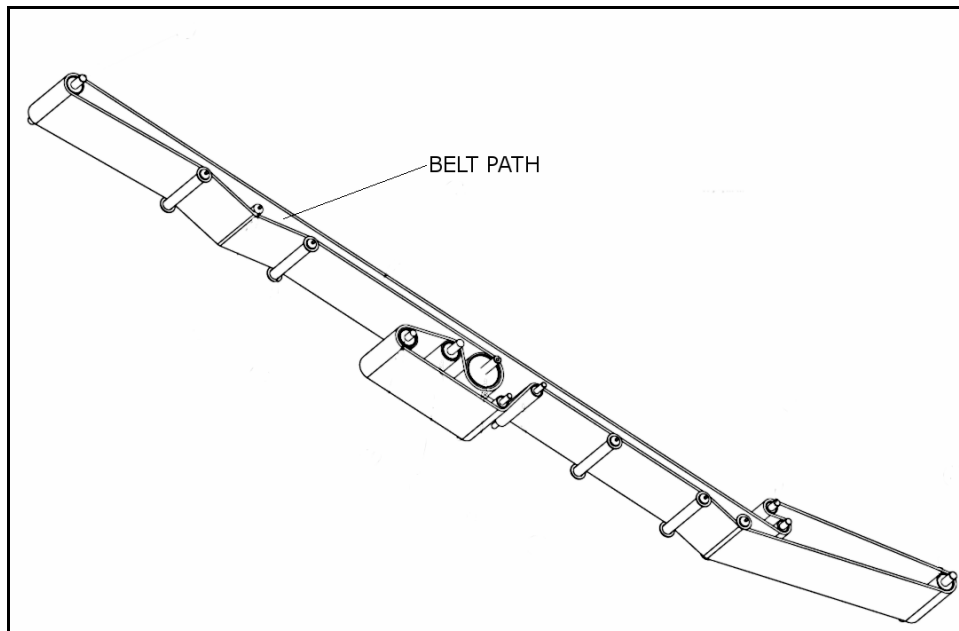

Figure 8.6 Drive Belt Path
4. Remove the lacing pin (see Figure 8.6).